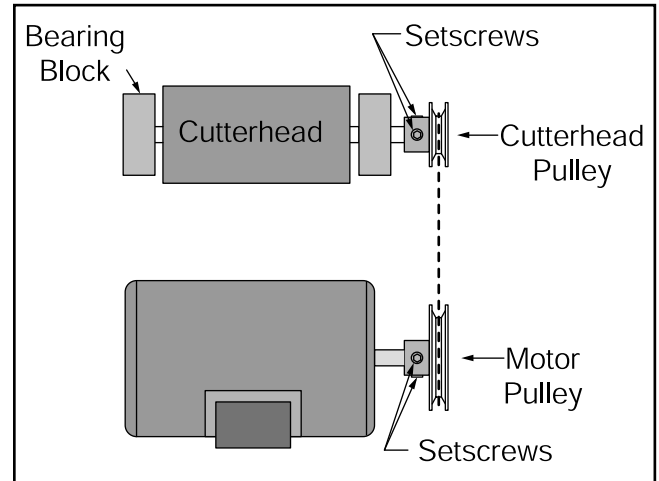

Figure 14. The V-belt should be in alignment with the two pulleys.
5. Using a straightedge, check the alignment of the V-belt and the two pulleys (**Figure 14**).